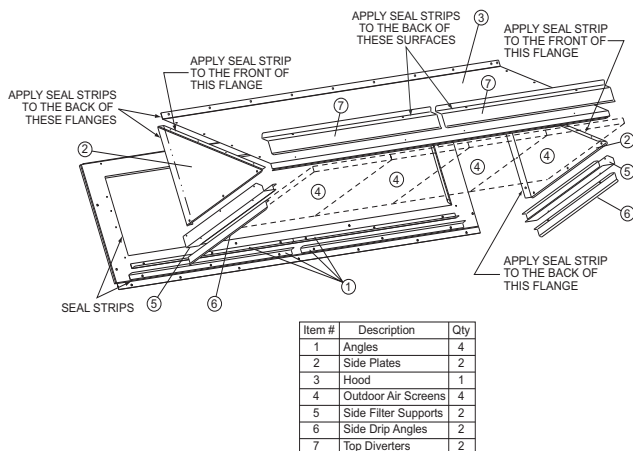

Fig. 14 — Hood Part Identification and Seal Strip Application Areas
See Fig. 14 for identification of the various parts of the hood assembly.
3. Apply seal strip to mating flanges on the side plates of the hood (see Fig. 14).
5. Apply seal strip to mating flange of the hood (see Fig. 14).